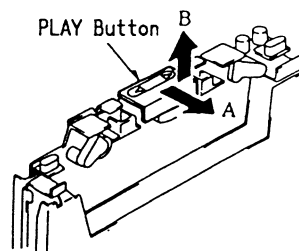

Fig. 6
- 2) Move the PLAY button in the direction of arrow A by 1.5mm to release the lock and pull it up in the direction of arrow B to remove it. (See Fig. 6)